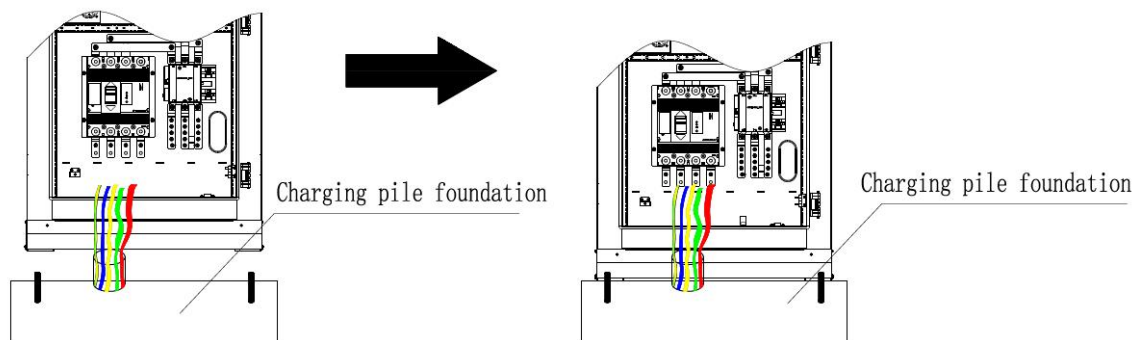

Figure 11
- Pass the cable from the inlet at the bottom of the charging pile, slowly lower the charging pile, and pull the cable out of the front door. Align the holes at the bottom of the charging pile with the 4 expansion bolts on the foundation and then place the charging pile on the foundation, as shown in Figure 11.